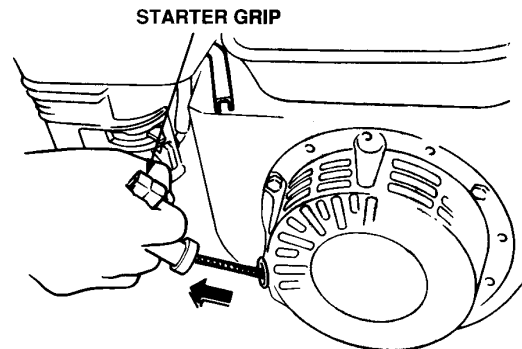

Figure 20. Starter Grip
- Grasp the starter grip (Figure 20) and slowly pull it out. The resistance becomes the hardest at a certain position, corresponding to the compression point. Pull the starter grip briskly and smoothly for starting.